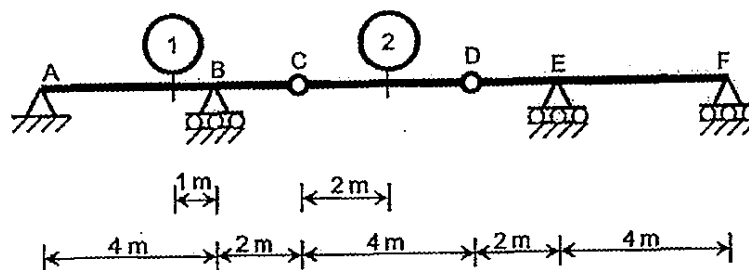

Figure Q1
1. The beam shown in Figure Q1 is subjected to a vertical unit load moving from Point A to F. Draw the influence lines for: